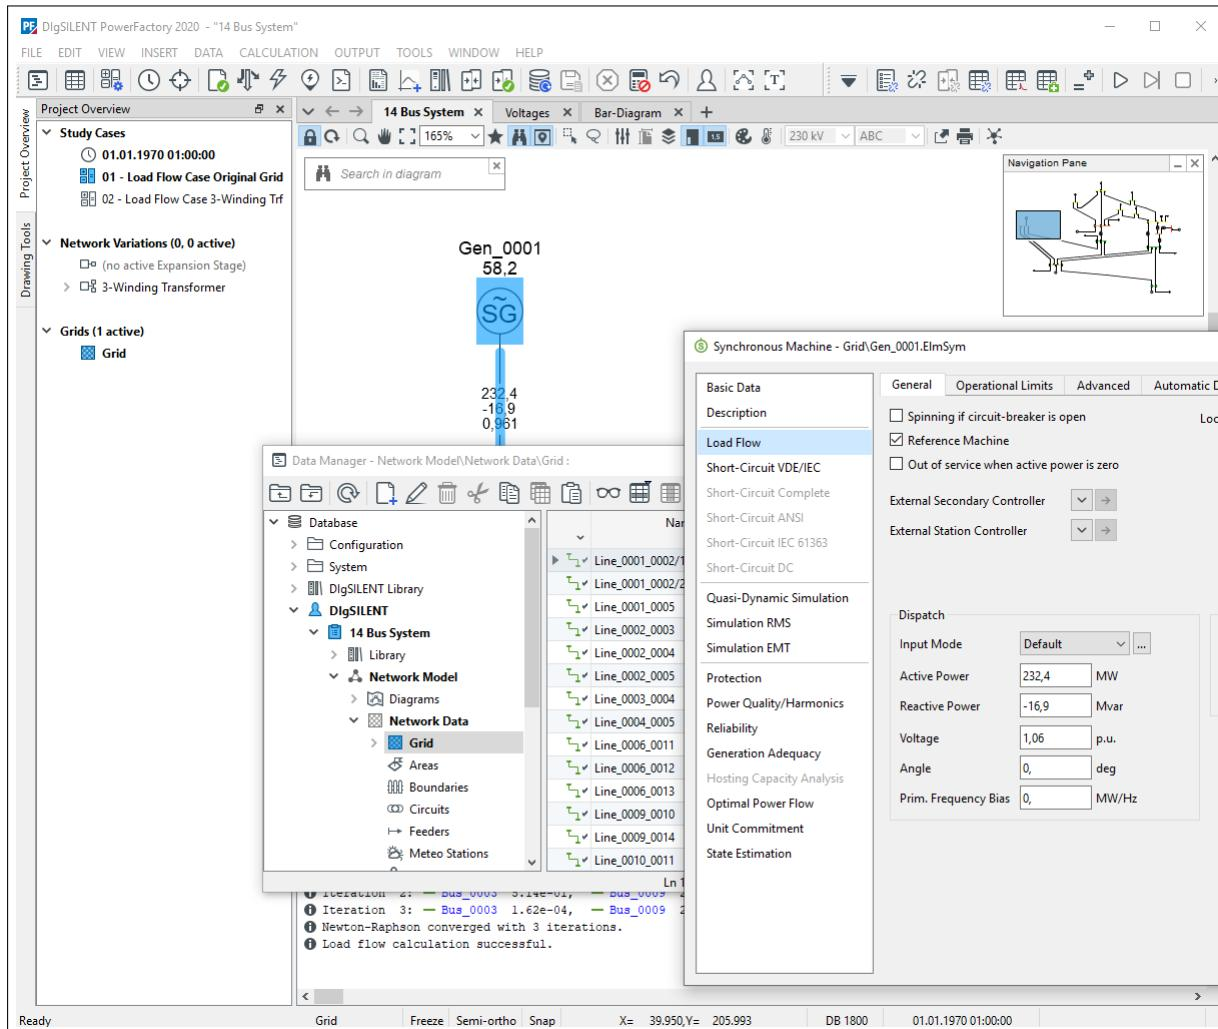

Figure 4.7.2: *PowerFactory* user interface
The main *PowerFactory* window is shown in Figure 4.7.2
6. When an object is double clicked its edit dialog will be displayed. The edit dialog is the interface between an object and the user. The parameters defining the object are accessed through this edit dialog. Normally an edit dialog is composed of several “pages”. Each page groups parameters that are relevant to a certain function. In Figure 4.7.2 the Load Flow page of a generator is shown, where only generator parameters relevant to load flow calculations are shown.
10. The Drawing Tools window is by default also on the left-hand side of the user interface. In Figure 4.7.2 it is behind the Project Overview, but it can be selected via the tab, and will automatically come to the front if “freeze mode” is removed (see section 9.2.6 for more information.)
The main *PowerFactory* toolbar provides the user with quick access to the main commands available in the program (see Figure 4.7.2). Buttons that appear in grey are only active when appropriate. All command icons are equipped with balloon help text which are displayed when the cursor is held still over the icon for a moment, and no key is pressed.